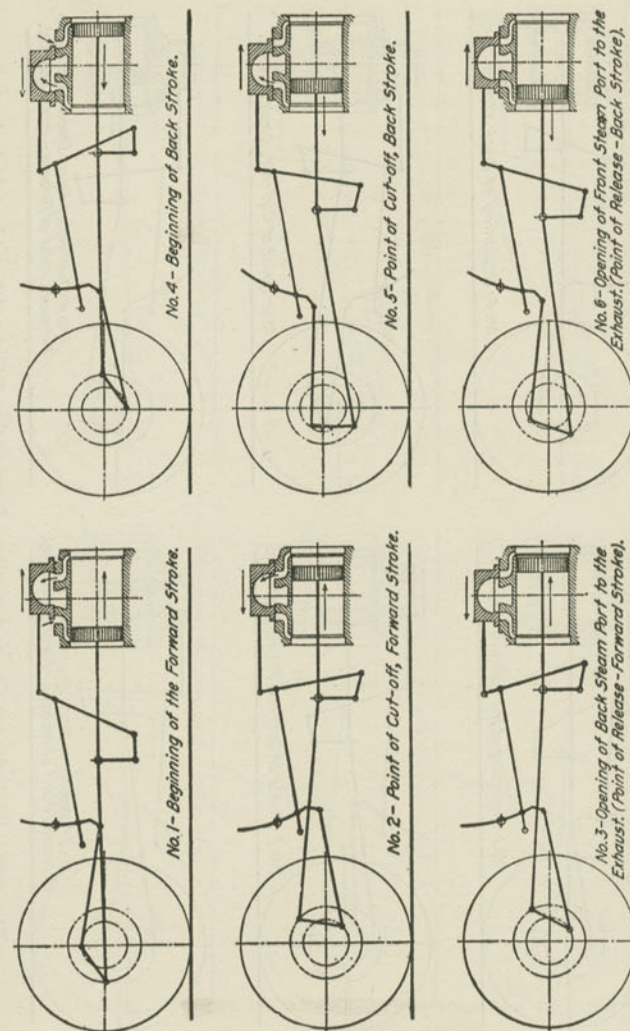
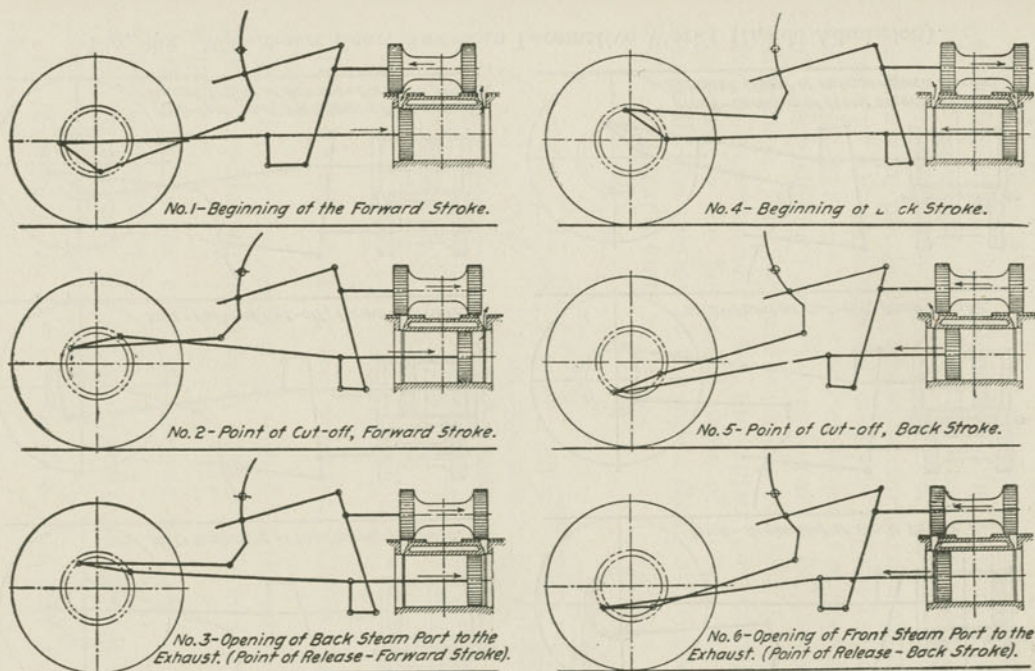

Fig. 299. Walschaert Gear, American Locomotive Works (Outside Admission).
Fig. 301. Walschaert Gear, American Locomotive Works (Inside Admission).
*A.* Figs. 299 and 300 show them for outside admission, for late and early cut-off respectively. Figs. 301 and 302 the same things for inside admission, American Locomotive Company usage.